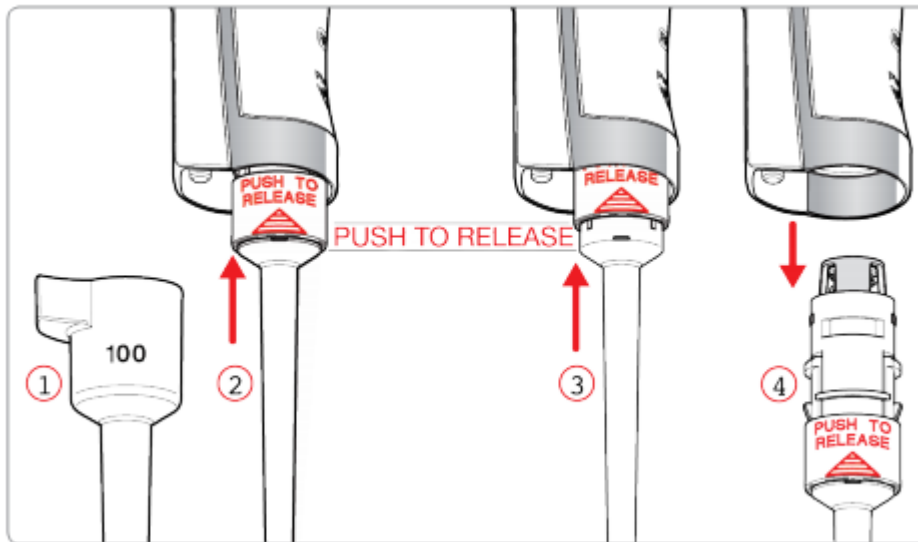

Figure 2: Removing the Lower Part
- 8.1. Clean the pipette** (See Figure 2.)
- 8.1.3. Remove the ejector sleeve by holding down the ejection button and pulling on the ejector sleeve (Figure 2: Step 1).
approximately 5mm until the lower part is released (Figure 2: Step 2 & 3).
- 8.1.5. The lower part is then removed from the upper part (Figure 2: Step 4).